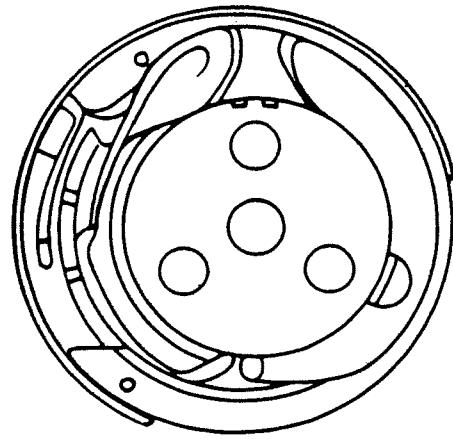

Fig. 37c
- Turn the handwheel until the opening of the sewing hook faces to the left (fig. 37c).